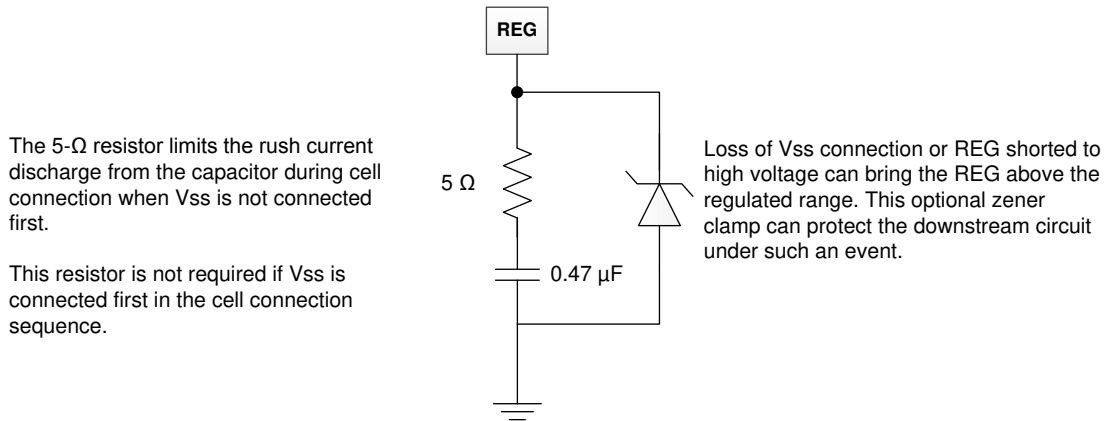

Figure 18. 5-V Zener Diode
1. If the VSS pin cannot be connected first, it is required to add a resistor of a minimum of 5 Ω to a maximum of 10 Ω (a 5-Ω resistor is used in the reference schematic, Figure 17) in series with the REG capacitor. When VSS is floating, the REG capacitor always charges up to the VDD voltage. When VSS is finally connected, the REG capacitor will be discharged. Adding a small resistor in series reduces the current strength and avoids any potential damage to the REG pin. The 5-Ω resistor can be placed in series with the REG connect circuit (as shown in Figure 17) or in series of the REG capacitor (as shown in Figure 18). Placing the resistor in series with the REG circuit results in a small drop of  $V_{REG}$  (for example: max loading of  $I_{REG}$  mA with a 5-Ω resistor will drop 5 mV on  $V_{REG}$ ), but such a connection can protect against rush current discharge from a REG capacitor or an external filter capacitor connected to the REG pin. Placing the resistor in series with the REG capacitor is an alternative to avoiding an additional drop in  $V_{REG}$  if the filter capacitor used by the external circuit is much smaller than the REG capacitor.
4. A zener diode can be added to the REG pin to VSS, as shown in Figure 18. This is recommended to protect the circuit connected to the REG pin if floating VSS in the field is a risk concern. When VSS is floating (during cell connection when VSS is not connected first or in a system fault with a broken BAT- wire), the REG voltage always pulls up to VDD. In a 4-series configuration, the REG voltage can reach approximately 16 V with VSS floating. Adding a zener diode clamps the REG voltage to a safe level for the external circuits connected to the REG pin. Having the zener diode can also protect the external circuits if the REG pin is shorted to the OUT pin or any other high-voltage output terminal. If a zener diode is used, TI recommends putting the diode on the battery side with the BQ296xxx device to allow protection on the REG pin, as well as the circuit connected to REG under the floating VSS condition. The resistor in series with the REG pin is not required in this case.